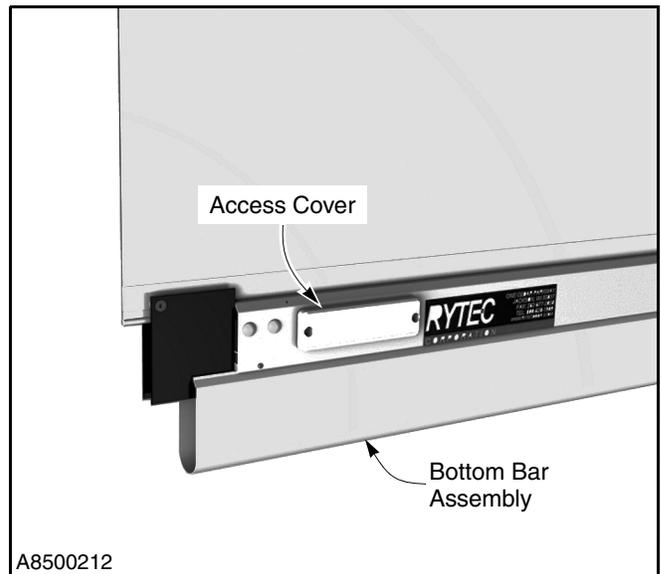

Figure 35
1. The kill switch is mounted in the bottom bar assembly, on the end below the door motor. To access the switch, first remove the access cover. (See Figure 35.)